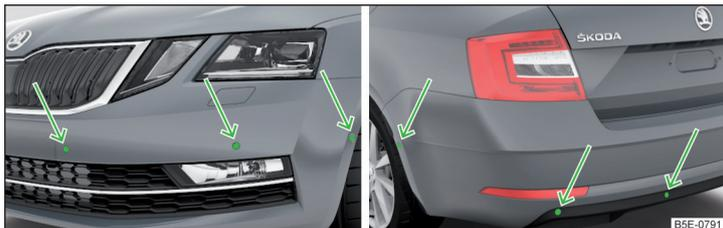

Fig. 241 Installation location of the sensors on the left side of the vehicle: front/rear
- Keep the system sensors » Fig. 241 on page 214 clean, snow- and ice-free and do not cover with any objects of any kind, otherwise the system functioning may be impaired.
The system uses ultrasound waves to calculate the distance between the bumper and an obstacle. The ultrasonic sensors are, depending on vehicle equipment, located in the back or in the front bumper » Fig. 241.